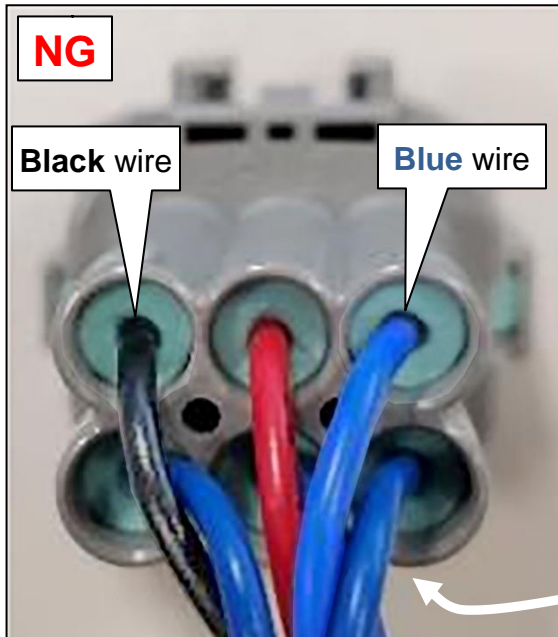

Figure 20
22. Insert the **black** wire where the **blue** wire was positioned (Figure 20, 21).
23. Insert the **blue** wire where the **black** wire was positioned (Figure 20, 21).